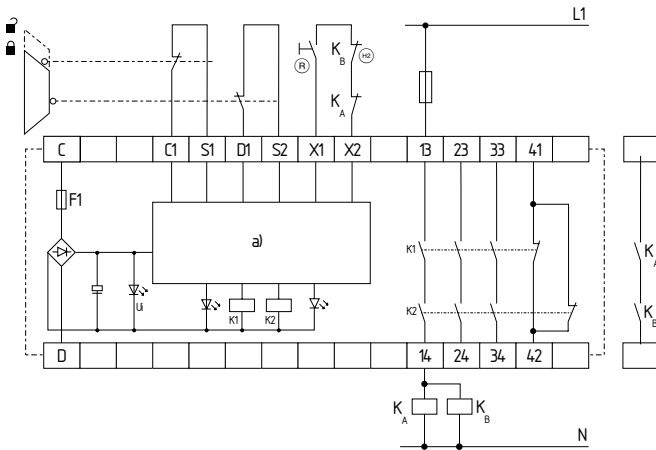

Fig. 2
**Dual-channel control, shown for a guard door monitor with two position switches where one has a positive break contact; with external reset button (R) (Fig. 2)**